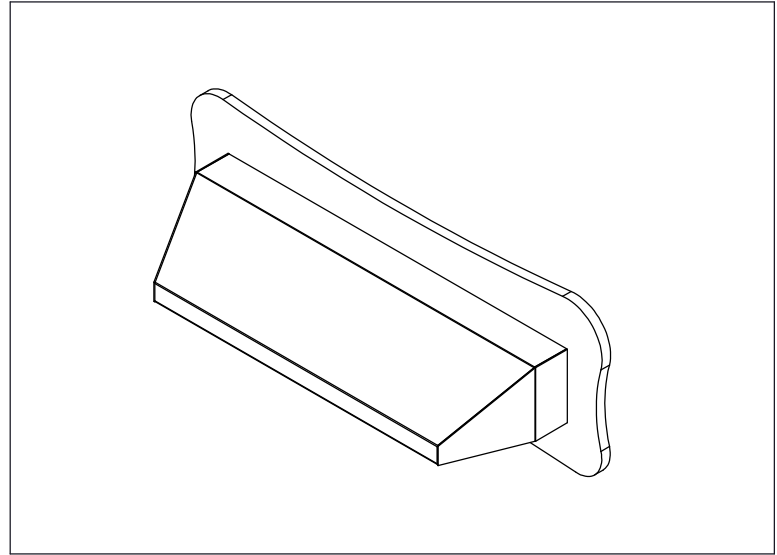

Figure 6
6. Caulk around fixture between Housing and wall (Fig. 6).